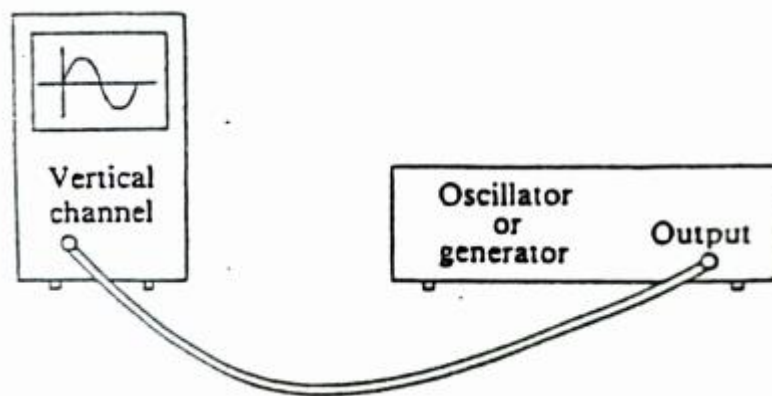

FIG 6.7
- (a) Connect the output of the oscillator or generator directly to one channel of the scope as shown in Fig. 6.7.